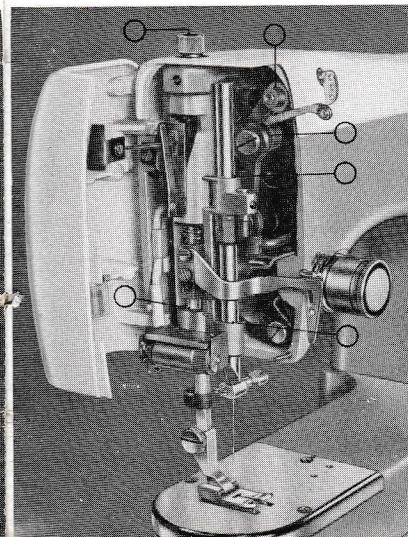

Fig. 4
- Open the face plate by rotating it on its hinges and apply a few drops of oil at the points indicated in Fig. 4.